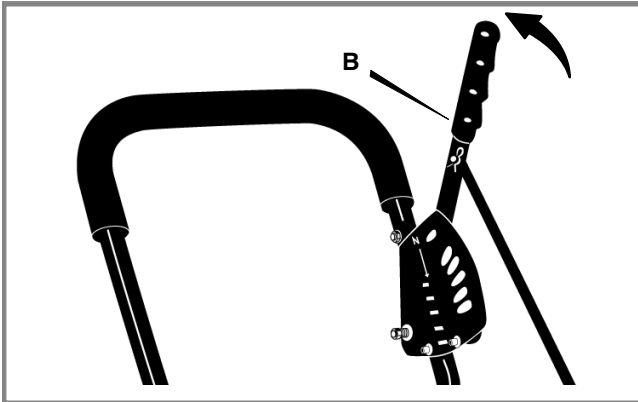

Figure 22: Clutch / Depth Control Lever
- 2 Pull the clutch / depth control lever (B) back to release the tension from the belt (see Figure 22).